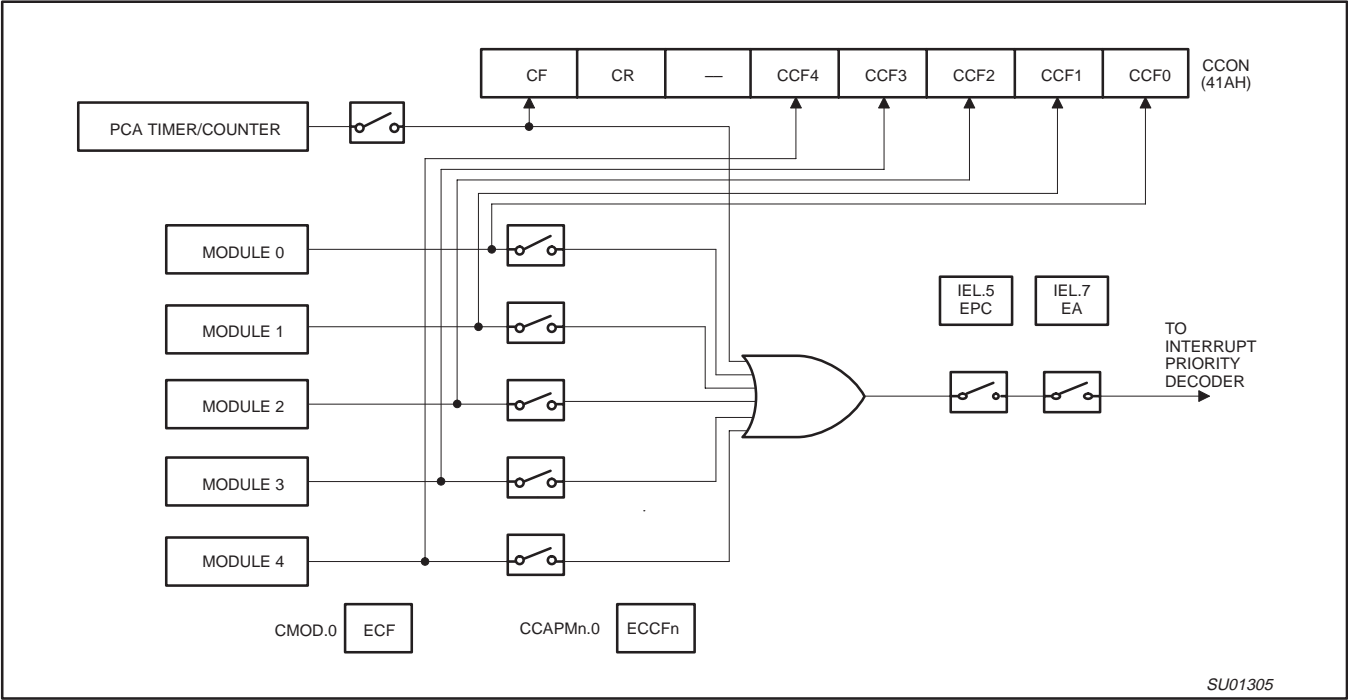

Figure 9. PCA Interrupt System
The CCON SFR contains the run control bit for the PCA and the flags for the PCA timer (CF) and each module (refer to Figure 11). To run the PCA the CR bit (CCON.6) must be set by software. The PCA is shut off by clearing this bit. The CF bit (CCON.7) is set when the PCA counter overflows and an interrupt will be generated if the ECF bit in the CMOD register is set. The CF bit can only be cleared by software. Bits 0 through 4 of the CCON register are the flags for the modules (bit 0 for module 0, bit 1 for module 1, etc.) and are set by hardware when either a match or a capture occurs. These flags also can only be cleared by software. The PCA interrupt system shown in Figure 9.